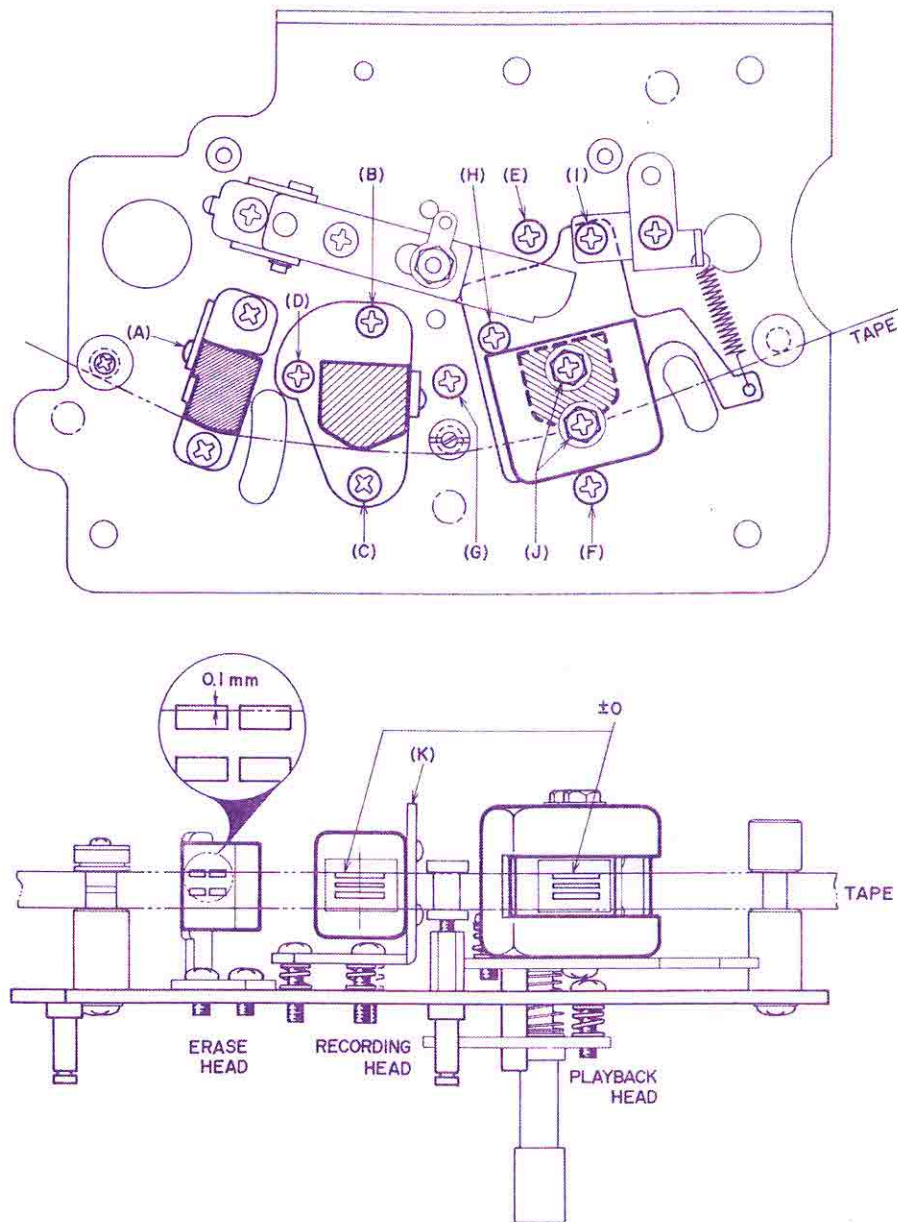

Fig. 14
At P.B. mode, loosen screw (A) shown in Fig. 14 and adjust erase head height so that the upper edge of the tape is about 0.1 mm lower than the left channel head core of the erase head.
At P.B. mode, adjust recording head height by turning screws (B), (C), and (D) shown in Fig. 14 to left and right until the upper edge of the tape and the upper edge of the left channel head core of the recording head are the same height.
- a. At forward P.B. mode, adjust playback head height by turning screw (I) shown in Fig. 14 to left and right until the upper edge of the tape and the upper edge of the left channel head core of the playback head are the same height.
- b. At reverse P.B. mode, adjust playback head height by turning screw (H) shown in Fig. 14 to left and right until the lower edge of the tape and the lower edge of the right channel head core of the playback head are the same height.
- d. At forward P.B. mode, turn azimuth alignment adjustment screw (G) to left and right until the output level of both channels is maximum.
- e. After the adjustment outlined in (d) above has been completed, loosen screws (J) and move the head gap side of the playback head to left and right until there is no fluctuation (maximum allowable fluctuation $+0.5/-0$ dB) in output level (both channels) when tension is applied to the supply reel. Tighten screws (J) to maintain this condition.
- c. At recording mode, turn azimuth alignment screw (D) to left and right and adjust so that the line output level of both channels is maximum and does not fluctuate.
- d. When the above adjustment has been completed, adjust the gap side of the recording head by bending recording head installation angle (K) shown in Fig. 14 to left and right until the line output level (both channels) does not fluctuate (maximum allowable fluctuation $+0.5/-0$ dB) when tension is applied to the supply reel.